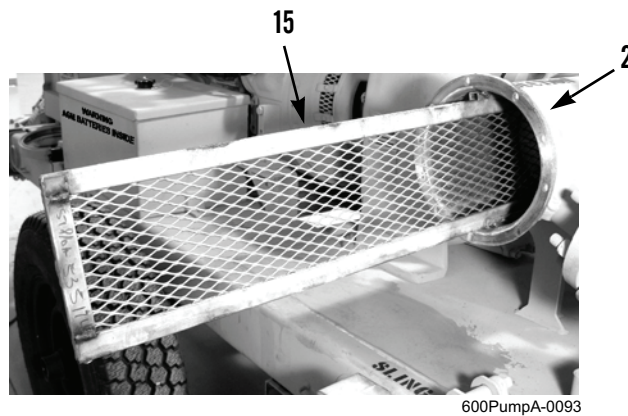

Figure 14. Strainer.
10. Slide strainer (Figure 14, Item 15) into suction manifold (Figure 14, Item 2).